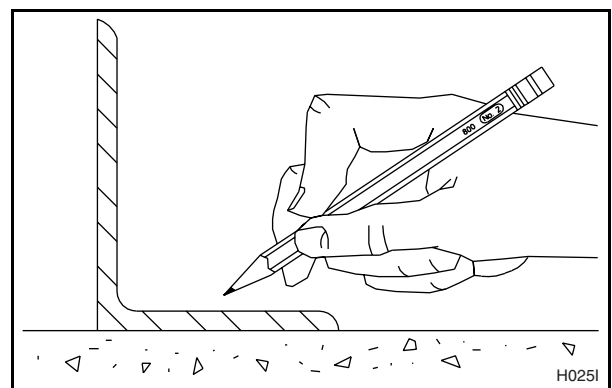

Figure 22
Use the following instructions and Figures 22 through 26 as a step-by-step guide to installation of the elevated base frame.
2. Use the elevated base frame as a template by positioning the frame in the desired location and marking the pre-drilled mounting holes on the floor. See Figure 22.